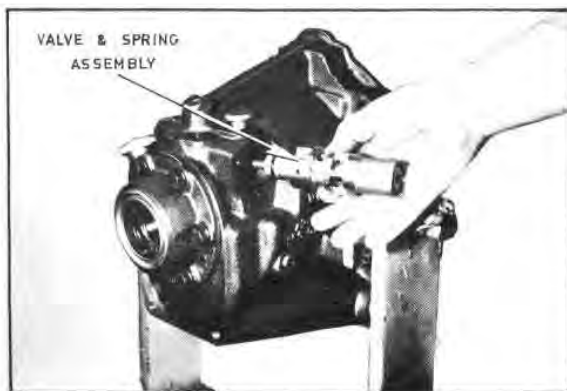

Fig. G49 — Installation of Valve and Spring Assembly
6. Place the forward and reverse transmission case and associated parts assembled in steps (1) to (5) on a flat work surface, bottom side down. Install the rotary control valve and regulator assembly threaded end first, into the bore provided at the right rear side of the transmission case (Figure G49). To ensure proper installation and neutral positioning of the valve, align the .369" - .376" wide slot in the spring end of the valve with the bottom tapped hole in the cover face of the housing (Figure G49).